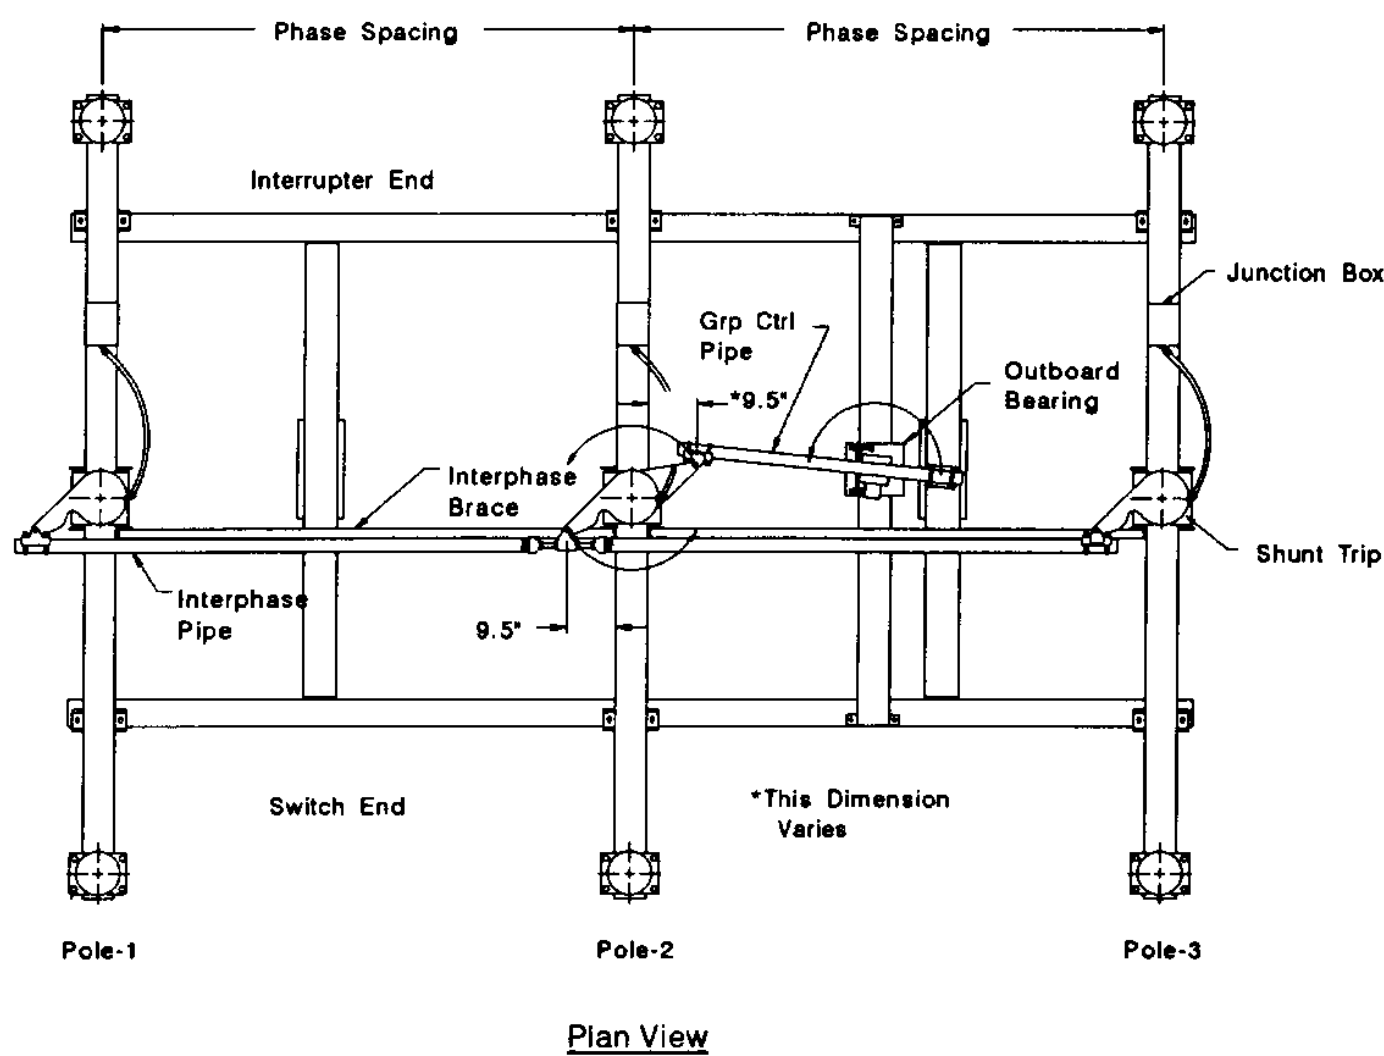

Figure 21 -- Typical Arrangement
- 1. After assembling the structure (platform to columns using kit #7), locate each pole unit on the top platform as shown on the installation arrangement drawing provided with the order. A typical arrangement is shown in Figure 21. Observe proper relationship of interrupter and switch ends of a pole unit with respect to the structure and outboard bearing location. Refer to Handling Section of this manual for warnings and proper method of lifting the pole units. Use kit #1 and LOOSELY fasten pole units to the structure.